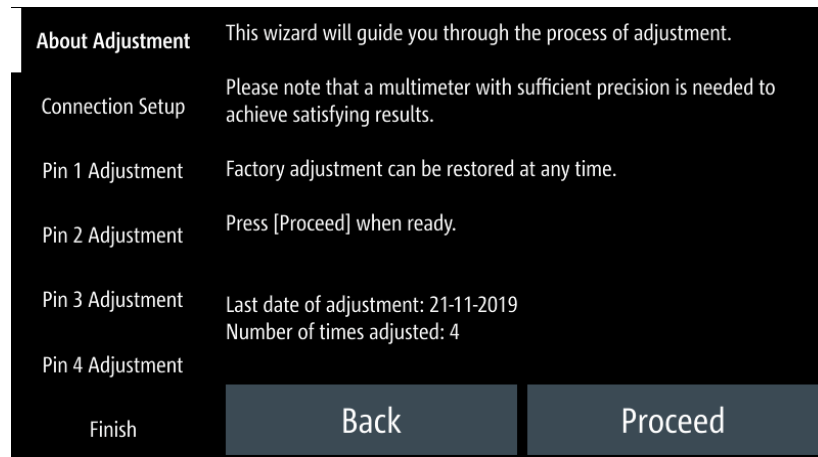
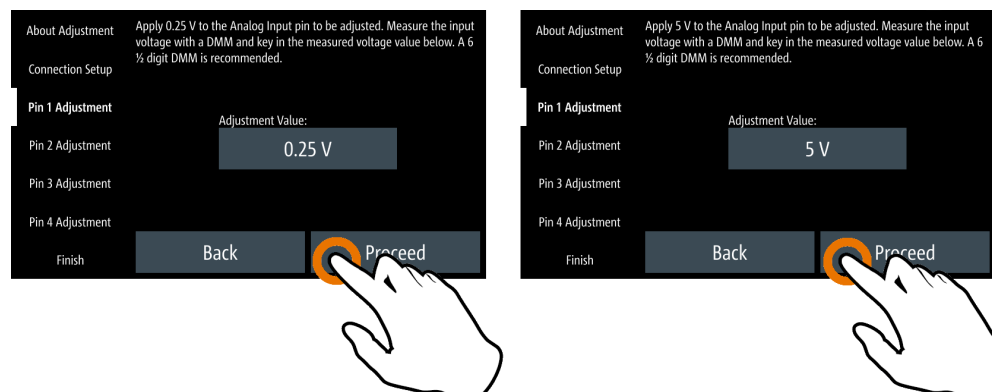

Figure 5-36: Analog In adjustment wizard
Figure 5-37: Analog In adjustment procedure
- Follow the on-screen instructions displayed in Figure 5-36. Supply the required voltage to the analog input and key in the measured value from DMM using the on-screen keyboard. See Figure 5-37.